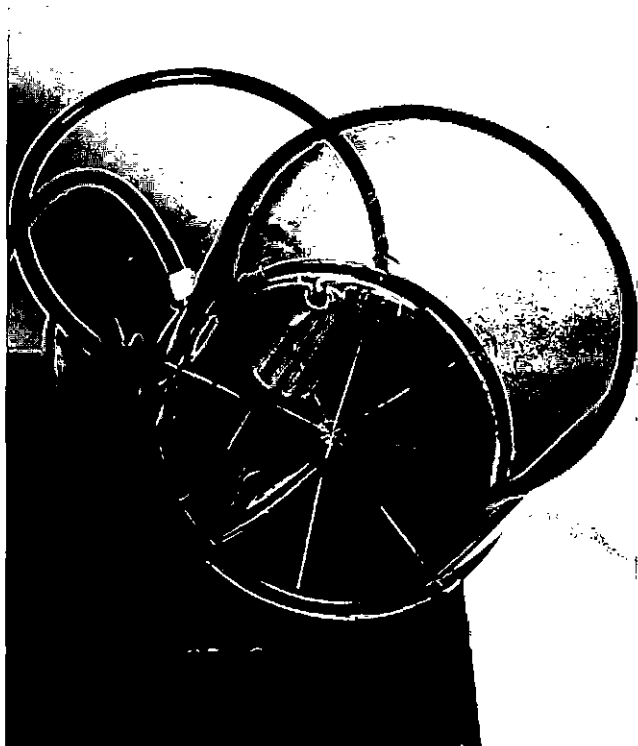

Fig. 4-19. Spray Tester in operation with the top removed
9. Observe the spray pattern of the injector cup to see which scribed line the spray pattern is nearest to. Compare this mark with that found with the known angle cup, Figs. 4-19 and 20.